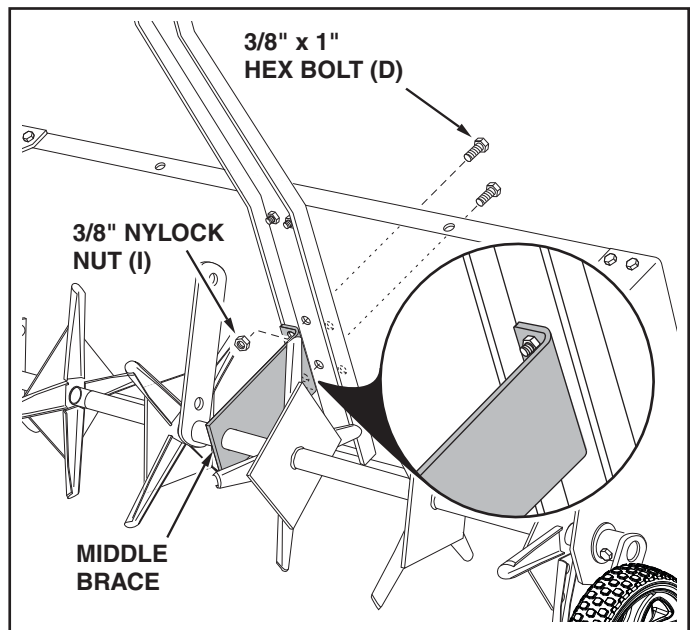

FIGURE 10
15. Tip the aerator back and rotate the middle brace up against the bottom of the tongue. Fasten it to the set of holes shown using two 3/8" x 1" hex bolts (D) and 3/8" nylock nuts (I). **Do not tighten until final step.** See figure 10.